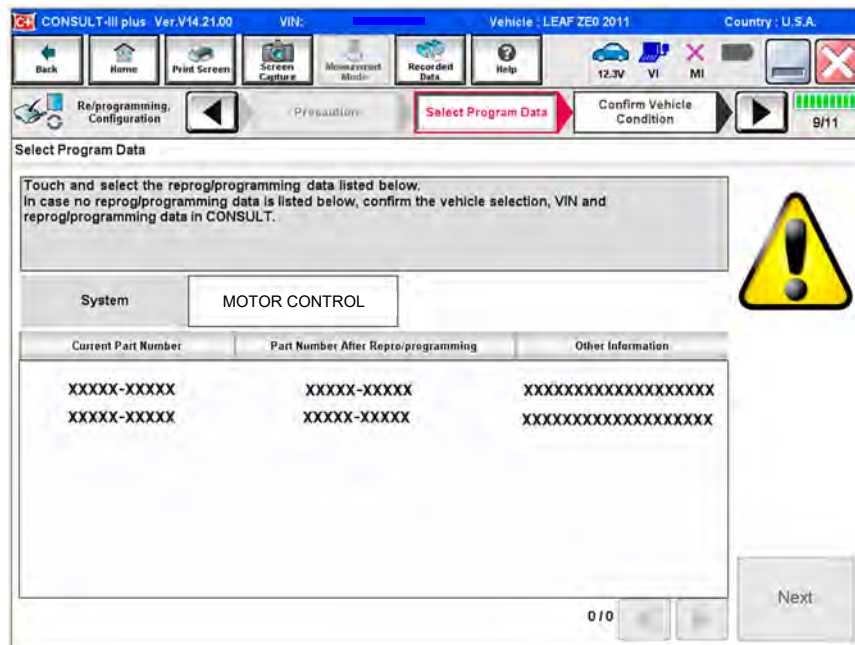

Figure 26
- If more than one P/N is available, the screen in Figure 26 will display. Select and use the reprogramming option that **does not** have the message “Caution! Use ONLY with NTBXX-XXX”.